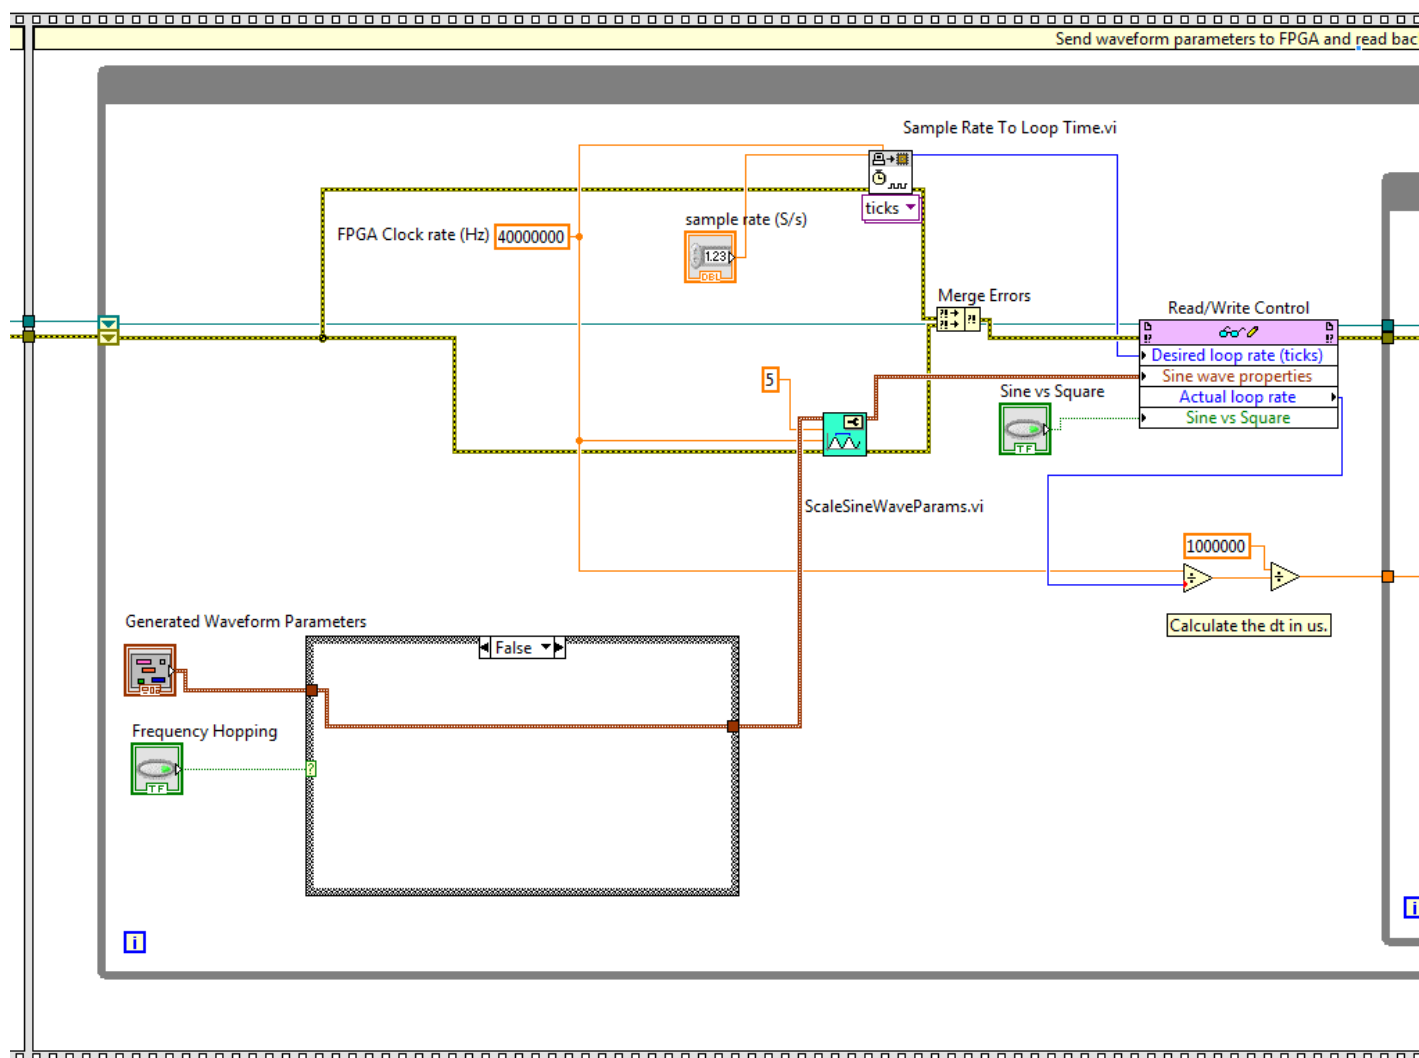

Fig. 13. Left side of the second cell in CPU VI.
- 19) Add a **new cell to the flat sequence** and construct the code in Fig. 13 and 14 inside this cell.